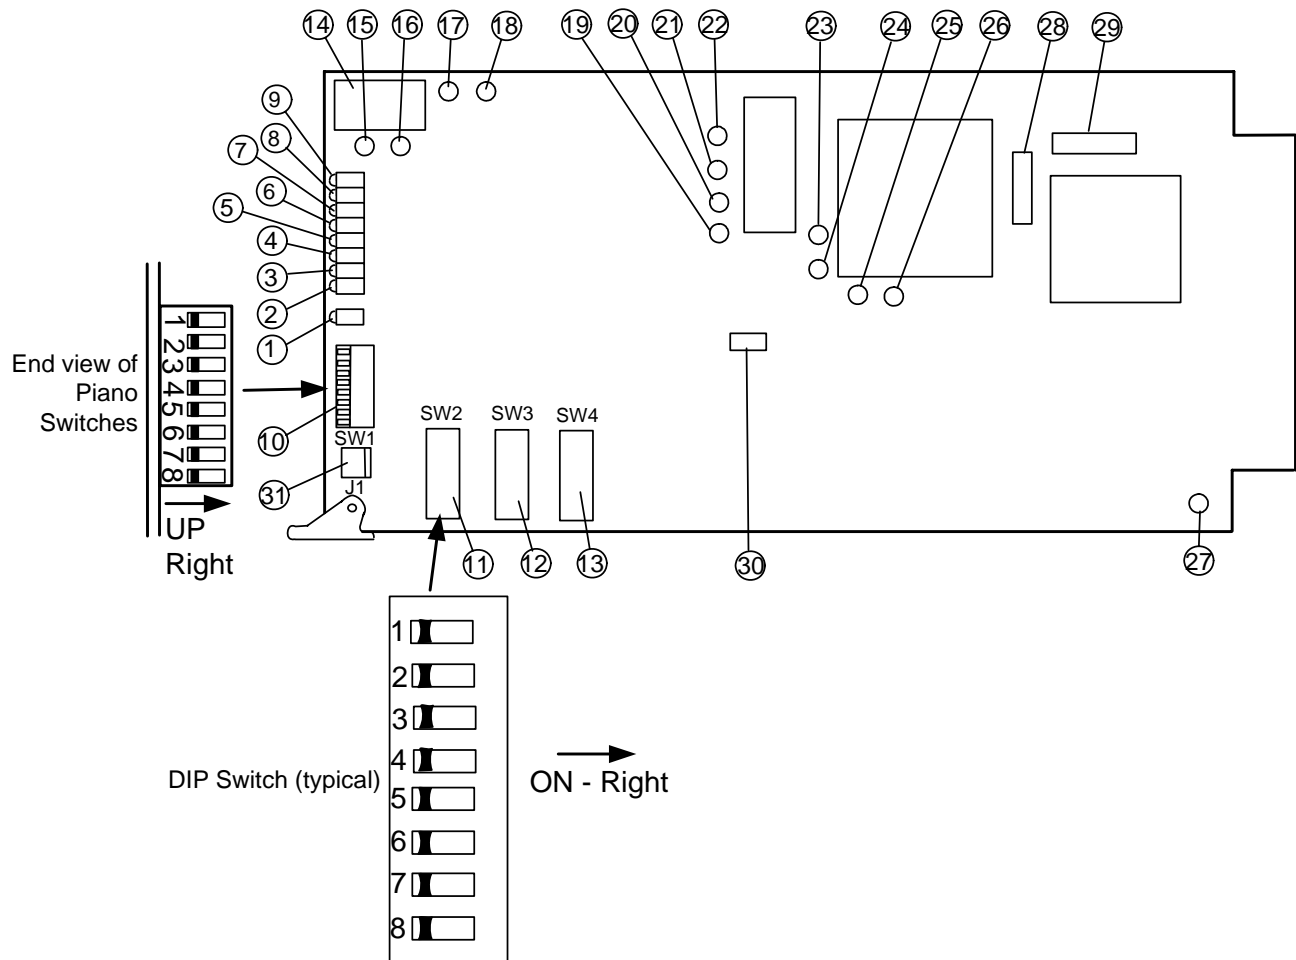

Figure 2. Controls and indicators, RFL OCUDP Selective Calling Unit
5. Refer to Figure 2 and Table 1 for the location and function of DIP switches on the OCUDP.